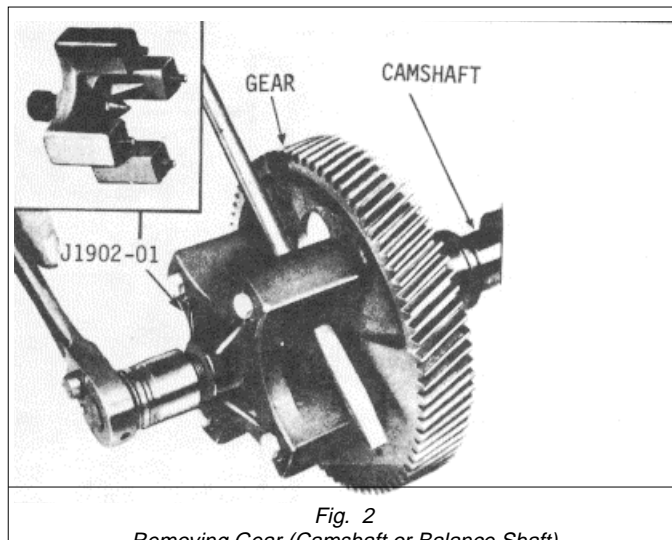

Fig. 2
- (1) Remove the camshaft and balance shaft from the engine as outlined in SM6-5-25.0.
- (2) Support the camshaft suitably in the soft jaws of a bench vise, being careful not to damage the cams.
- (3) Remove the nut retaining the gear on the camshaft.
- (4) Back out the puller screw of tool J 1902-01 and attach the puller to the outer face of the gear with four bolts (Fig. 2).
- (5) Turn the puller screw down against the end of the shaft to remove the gear.
- (6) Remove the gear from the balance shaft in a similar manner.
- (7) If necessary, remove the two weight retaining bolts and remove the balance weights from each gear.
- (8) If necessary, remove the keys from the camshaft and balance shaft.